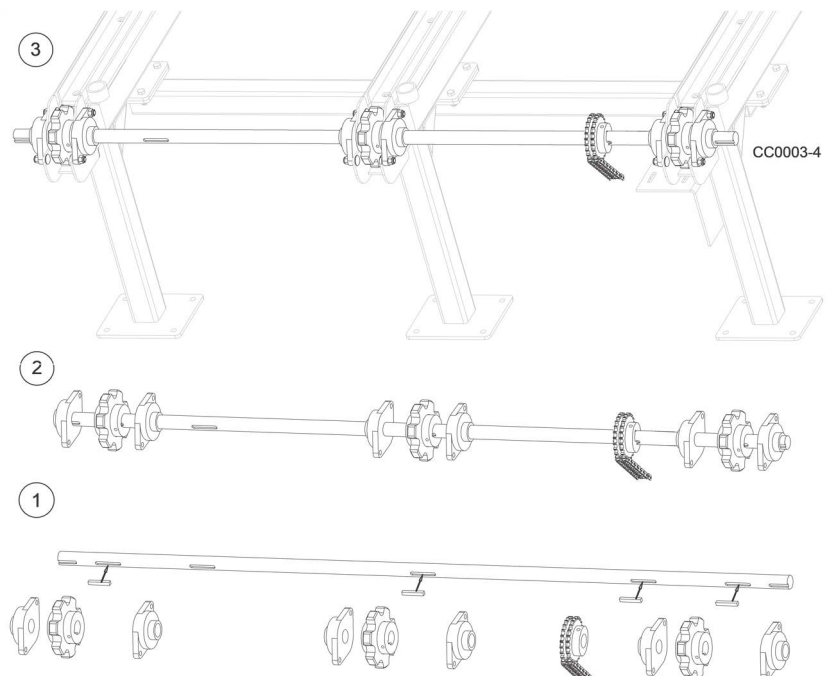

FIG. 3-2
1. Assemble the shaft in the proper order, as shown in FIG. 3-2. If you have ordered the wide extension option, the shaft extension should also be assembled at this time. See Section “” Wide Extension Table Assembly (Optional)..
2. Start with the middle sprocket and work outward. Be sure the keys align on the sprockets. Allow room between the sprockets and the bearing for the carriage bolts that mount the bearing to the frame, as shown in FIG. 3-2.
3. Install the carriage bolts for the bearings on the frame prior to installing the drive shaft to the framework. Set the shaft into the frame and align the bearings to the carriage bolts as shown in FIG. 3-2.